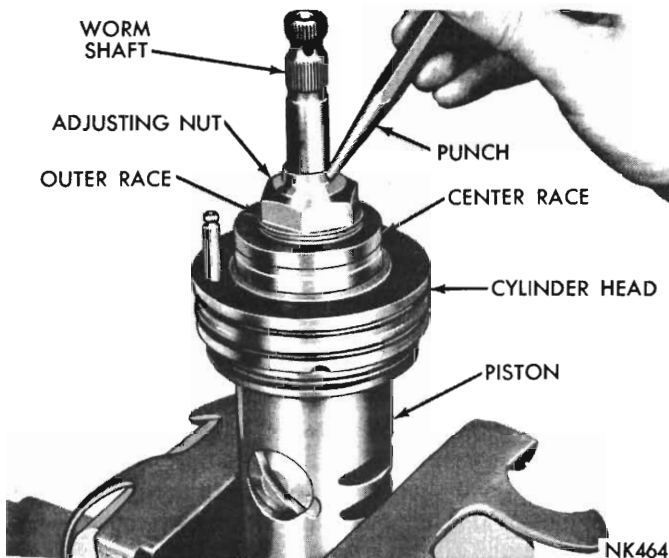

Fig. 20 - Staking wormshaft bearing adjusting nut
(36) When correct adjustment has been obtained, stake the upper part of the wormshaft adjusting nut into the knurled area of the shaft.
- a. Hold a 1/4" flat end punch in line with the centre line of the wormshaft, at a slight angle to, and in contact with, the nut flange (Fig. 20).
(37) Position the spacer assembly over the centre race, engaging the dowel pin of the spacer in the slot of the race, and the slot of the spacer entered over the cylinder head ferrule.